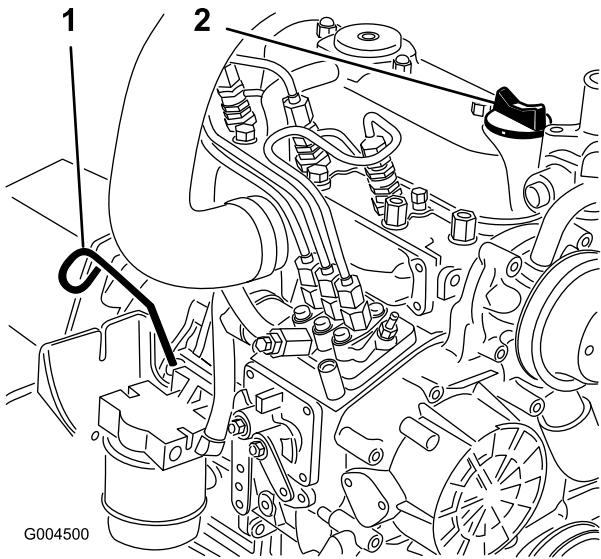

Figure 45
2. Remove the dipstick (Figure 45), wipe it clean, and install the dipstick. Remove the dipstick and check the oil level.
3. If the oil level is below the Full mark, remove the fill cap (Figure 45) and add oil until the level reaches the Full mark on the dipstick.